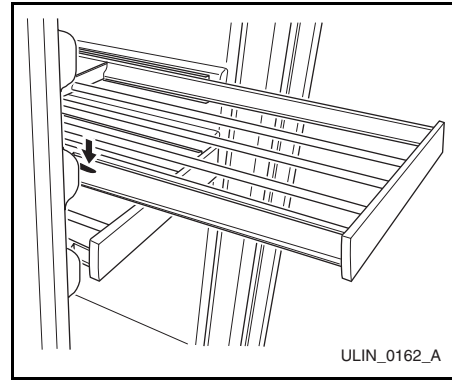

Figure 17
3. Press the left rack release lever (**Figure 17**) down, and at the same time, lift the corresponding right rack release lever up, and pull the rack out until it is free of the tracks and the cabinet.